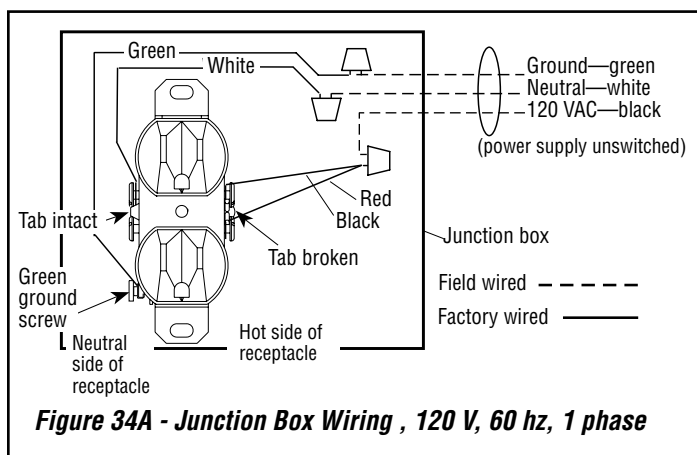

Figure 34A - Junction Box Wiring , 120 V, 60 hz, 1 phase
4. Connect the black power supply wire to the power outlet black wire and red if included (red not included in all models). Connect the white power supply wire to the outlet common terminal (**Figure 34A**).
5. Connect the ground supply wire to the pigtail lead attached to the outlet's green ground screw (**Figure 34A**). Restrain the inlet power lead per NEC or local codes.